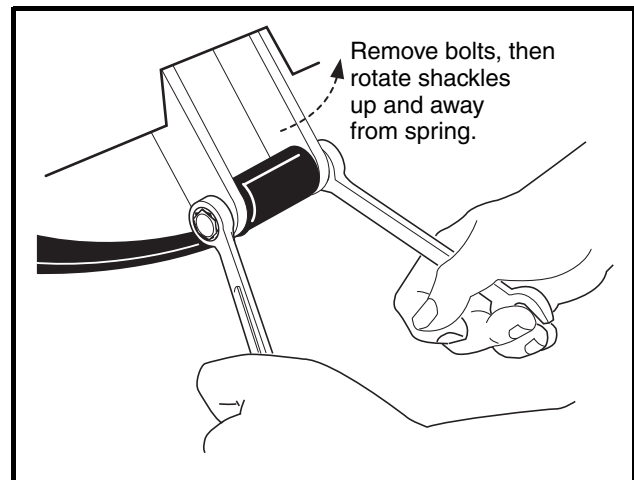

Figure 17-9 Shackles
7. With a floor jack supporting the transaxle, remove lower spring shackle nuts and bolts. Position shackles so they are clear of springs (**Figure 17-9, Page 17-5**).